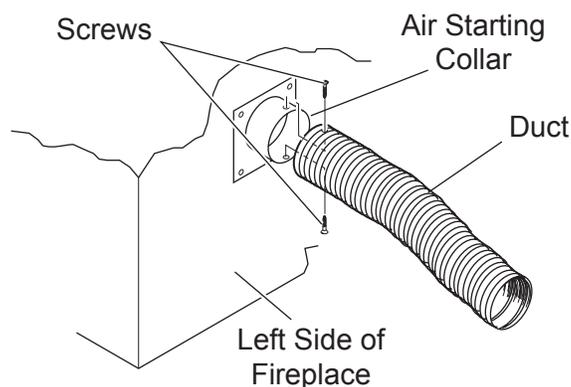

Figure 21 - Attaching Outside Duct to Starting Collar
4. Attach outside duct to starting collar with duct clamp or screws. *See Figure 21.*
6. Select and cut a piece of duct long enough to attach to the fireplace and stick out at least 3" beyond the face of the wall to which the AK-4 inlet air vent will be attached. *See Figure 21.*